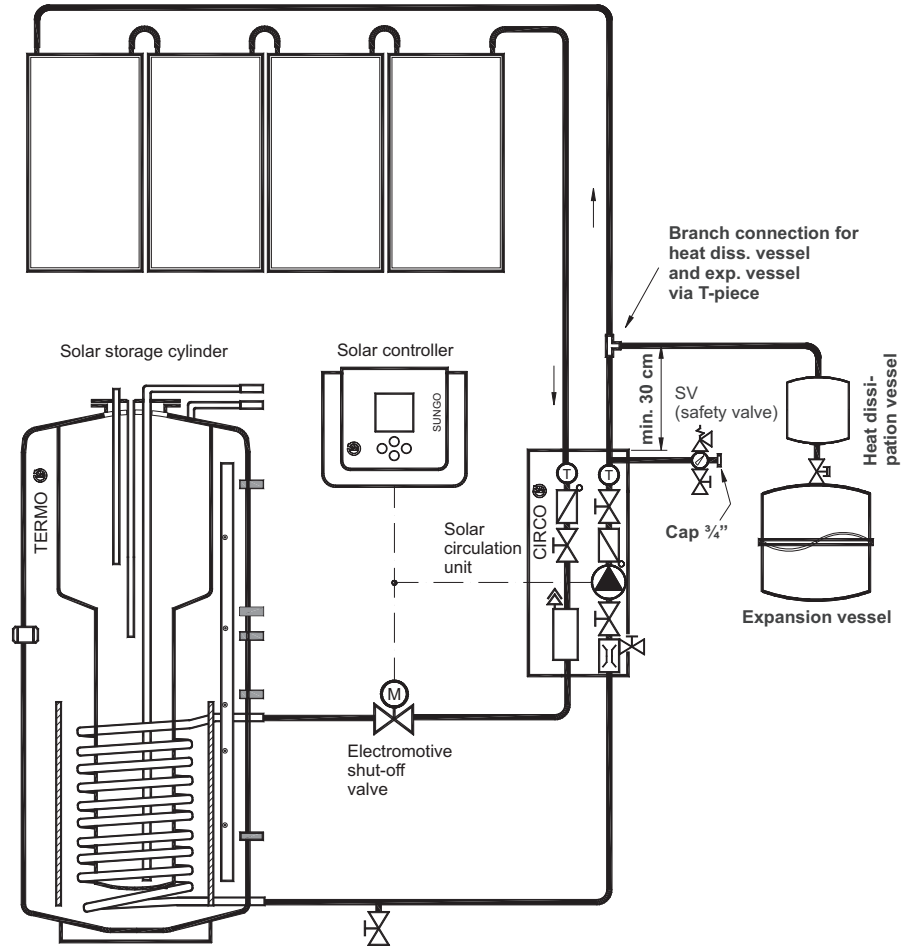

Figure 1 Solar installation with additional overheating protection.
- Install the heat dissipation vessel approx. 30 cm above the solar circulation unit (fig. 1).
- Install expansion vessel downstream. (fig. 1).
- The shut-off valve has to be installed into the supply leg behind the solar circuit unit (fig. 1). This way it can be avoided that during collector stagnation periods (vapour formation in collectors) hot vapour enters and potentially damages the unit.